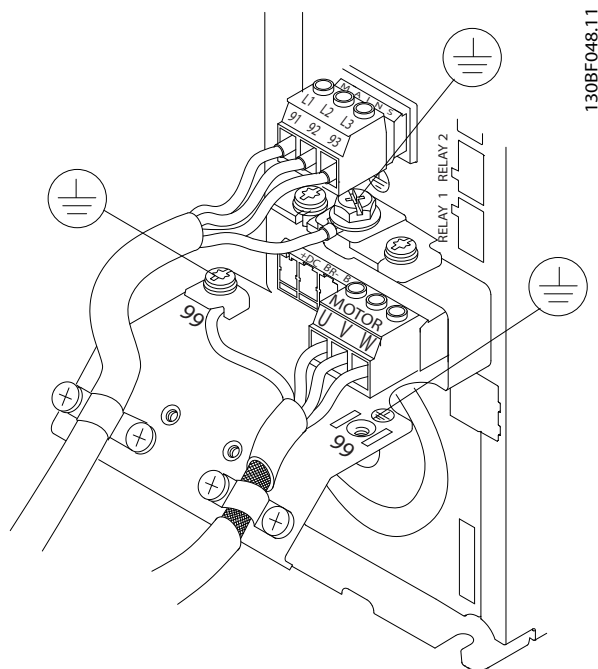

Figure 4.5 Example of Motor, Mains, and Ground Wiring
*Figure 4.5* shows mains input, motor, and grounding for basic frequency converters. Actual configurations vary with unit types and optional equipment.
1. Connect the 3-phase AC input power wiring to terminals L1, L2, and L3 (see *Figure 4.5*).